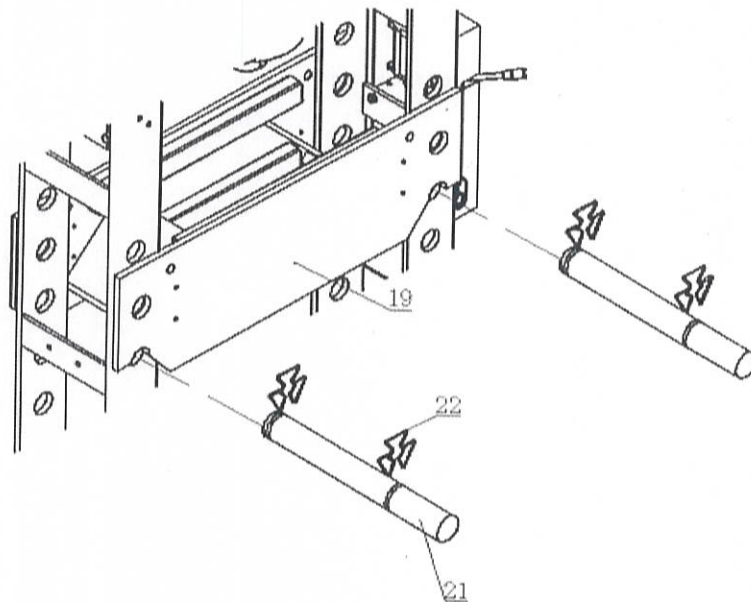

Fig 10
17.2 Adjust the bed (19) according to Section 13 to the appropriate height, then insert the pins (21) to the holes of body frame and lock the circlips (22).(fig 10&11)